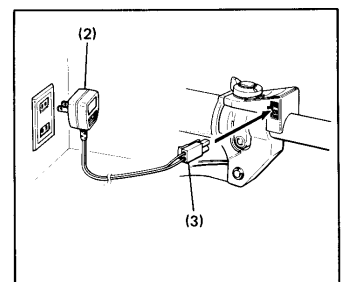

Fig. 13
1. Plug the battery charger (2) into a household electrical outlet (1 20v Only) and connect the electrical coupling (3) to the coupling on the top of the throttle lever assembly. (See Fig. 13)